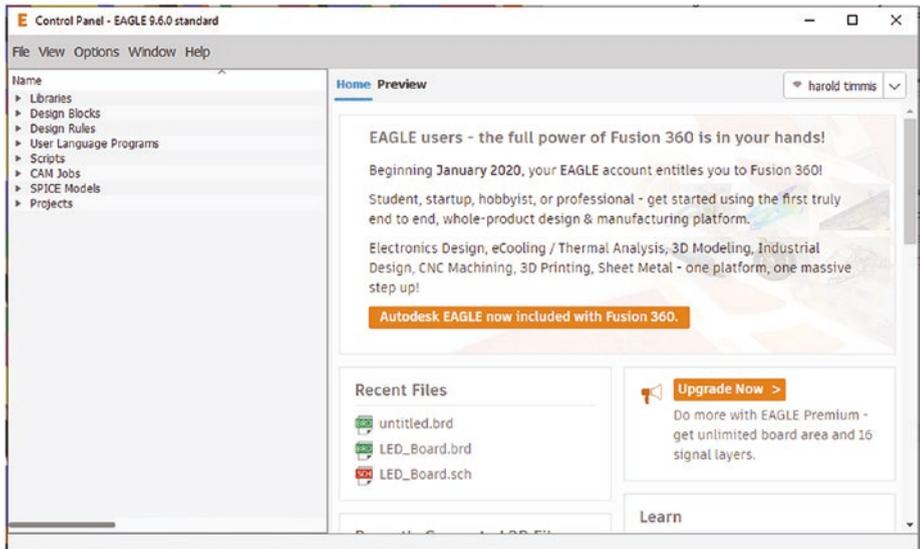

Figure 5-14. Open Eagle
1. Open Eagle. See Figure 5-14.